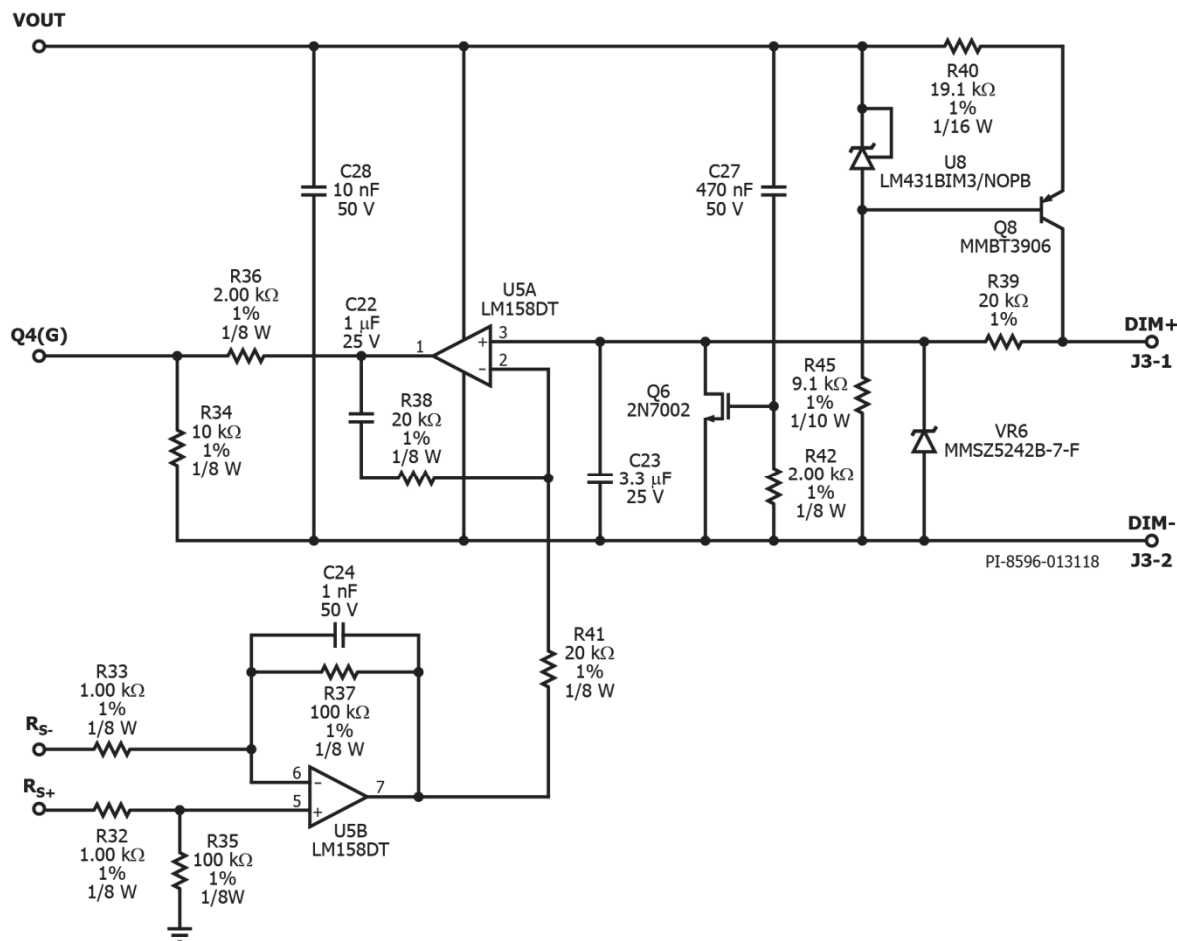

Figure 9 – 3 Way Dimming Circuit Diagram.
The simplified 3-way dimming control circuit with series MOSFET is shown in Figure 9. The idea is to vary the constant current (CC) point of the DCDC output section by varying the total sense resistance seen across IS (pin 1) and GND (pin 2) of U4 (LYTSwitch-6 IC). This is done by varying the ohmic resistance across drain-to-source of Q3 depending on the set voltage, PWM duty cycle, or resistance across the dimming input terminals, DIM+ and DIM-. IC U5 is a dual op-amp. The first op-amp, U5A, monitors the voltage from the dimming input and compares it with the voltage coming from the second op-amp, U5B, which serves as reference by providing output current information. IC U5B is configured as a differential amplifier which monitors the level of the output current I_{OUT} . The following considerations are made to simplify the voltage equation at pin 7 of U5B (V1):